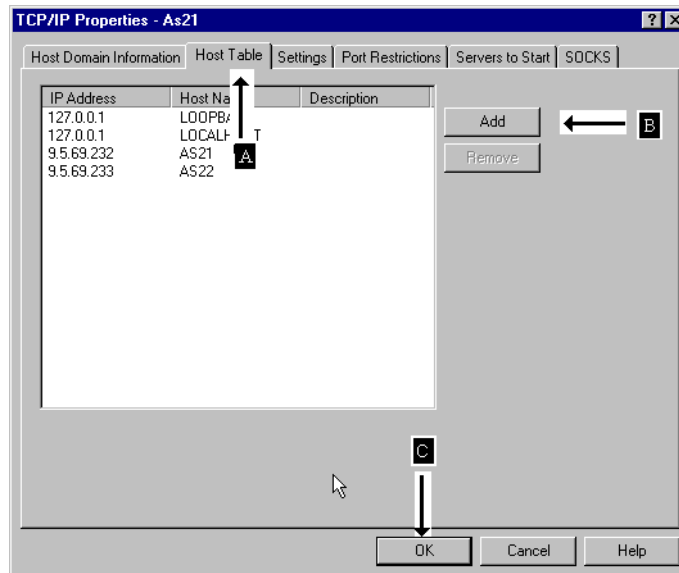

Figure 331. TCP/IP Host Table entry
3. Click the **Host table** (A) tab as shown in Figure 331.
4. Click the **Add** (B) button to specify the IP address, hostname, and description of the host that you want to include in the host table. Figure 331 shows the TCP/IP Host Table entry dialog.